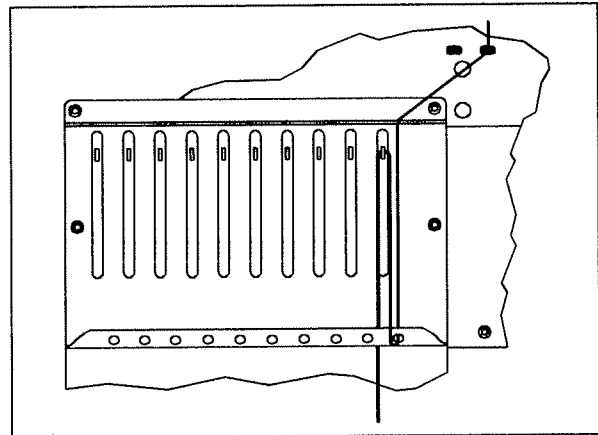

Figure 4-6
6. The upper thread guide is just above the take-up levers as shown in Figure 4-6. Route the thread through the hole.